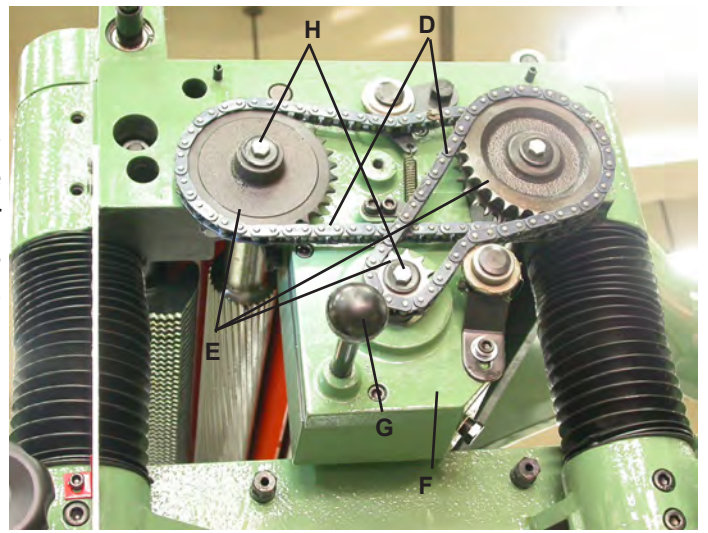
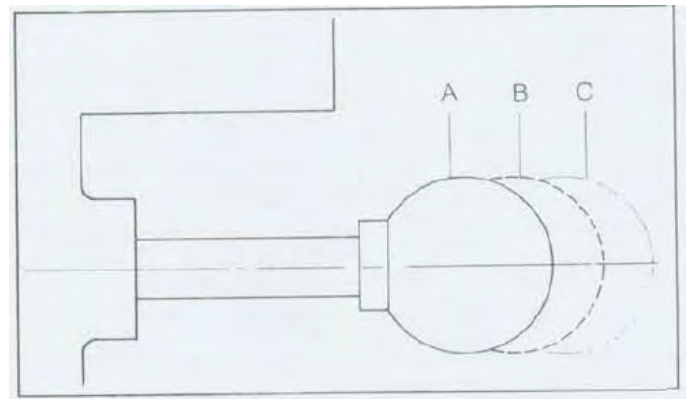

Fig. 33
Fig. 34
Your machine is equipped with a spiral, serrated infeed roller and a solid steel outfeed roller. When the feed rollers are engaged, they turn to feed the stock. The feed rollers slow automatically when the machine is under heavy load for best planing under all conditions. The feed rollers are driven by chains (D) Fig. 33 and the sprockets (E), which takes power directly from the cutterhead through the oil bath gear box (F) Fig. 33
There are two feed speeds in the gear box by using the shift lever (G) Fig. 33 to pull out or push in, and the feed speed range as shown in Fig. 34.
Shift gears handle, shown as Fig. 34. There are three kinds of operations of gear box by using shaft handle to pull or push. In the position A feed roll is operating on rate 20 FPM. Shown as